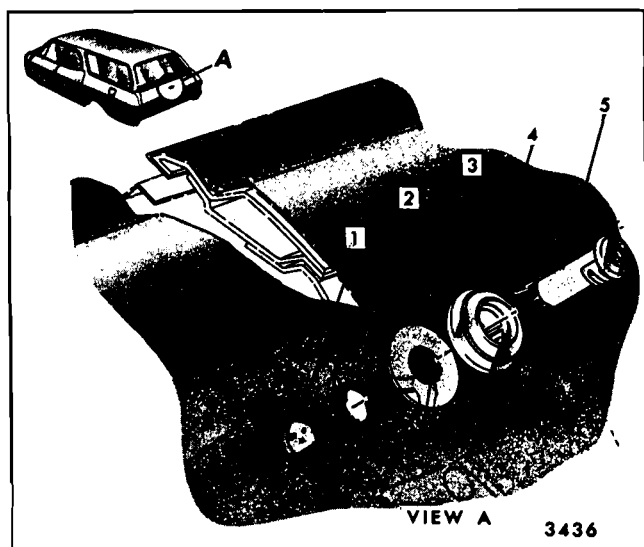
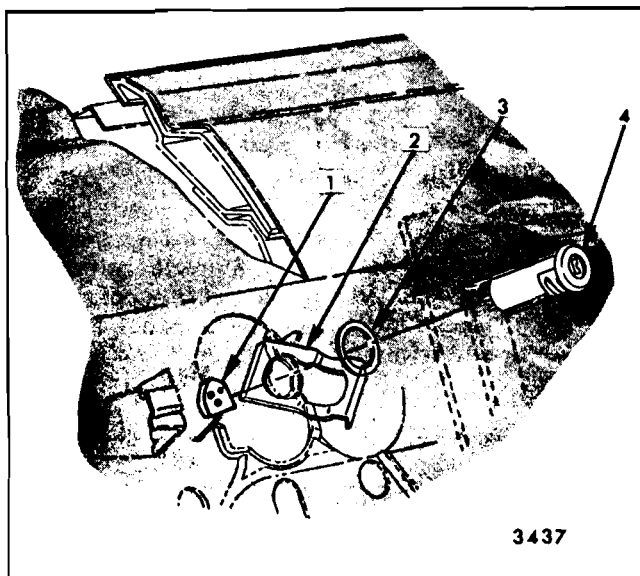

Fig. 9-17—Dual Gate Electric Key Switch and Cylinder Removal - "A" Body
Fig. 9-18—Dual Gate Electric Key Switch and Cylinder Removal
4. Slide retainer free of key switch and remove switch (See Figure 9-17 for "A" body styles and Figure 9-18 for "B" body styles.)